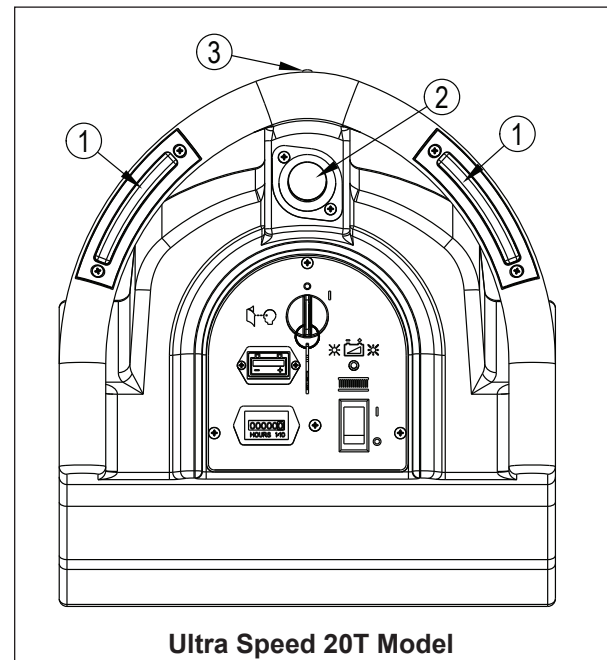

Figure 2
1. Make sure the loading ramp is at least eight (8) feet long, and strong enough to support the machine.
5. Align the machine on a level surface five (5) feet in front of the ramp.
6. Put the traverse knob at full speed (20T Model only). See figure 2 (2).
7. **Ultra Speed 20T** (see figure 2) - While pushing in traverse reverse switch (3), push in either the right or left pad / traverse switch (1) at the same time.